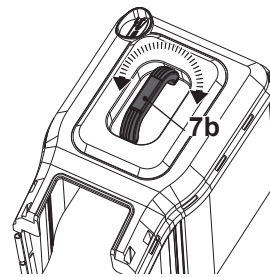

Fig. 6
2. The carry handle (7a) is already preassembled on the top cover (7b) and its position is rotatable to fit the intended use (Fig. 6).
3. The grass catcher (7) is ready for use.